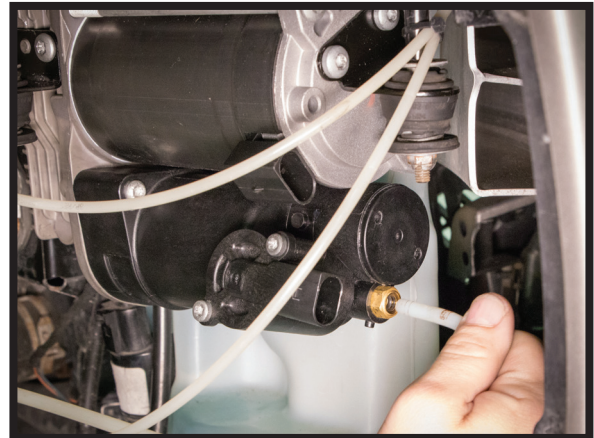

FIGURE 12
7. REMOVE BLACK SHIPPING PIN AND REINSTALL THE AIR LINE. (FIGURE 12)